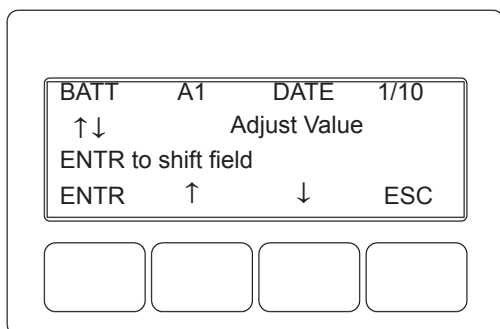
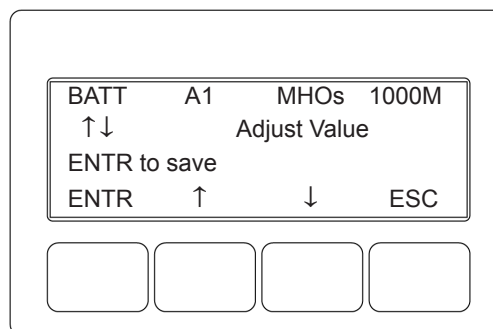

Fig. 2-26, Enter Battery Date Code
Fig. 2-27, Enter Battery MHOs Reading
20. Enter the battery DATE code and the MHOs (conductance) readings. Battery date and MHOs entries can be made on the LCD (see Figs. **Fig. 2-26, Enter Battery Date Code** and **Fig. 2-27, Enter Battery MHOs Reading**).